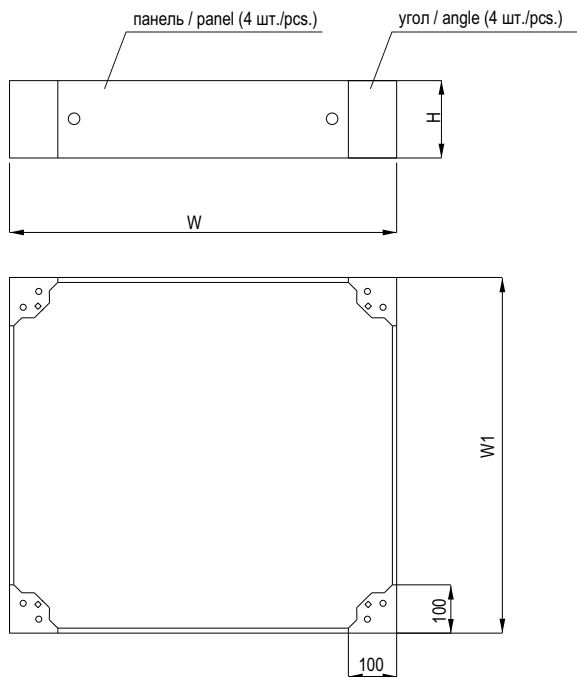

Рисунок 1 – Цоколь / Figure 1 – Basement
2.2 The appearance of the basement is shown in the figure 1.